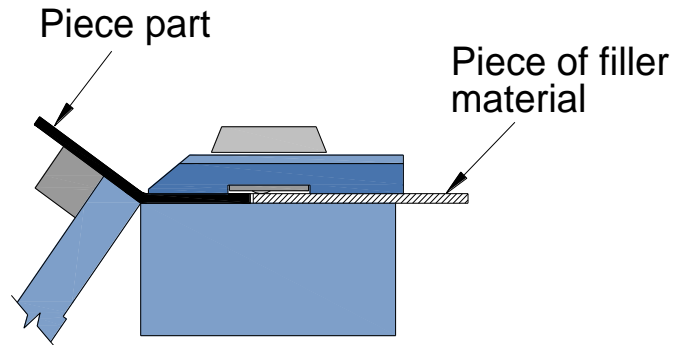

figure 10
9. Press and HOLD IN the RED stop button (fig. 10) until the clamping bar releases. Release the red button.
11. For thicker gauge materials set the toggle switch in (fig. 10) to the CLAMPING FOR BENDING position. When bending very thin materials set the toggle switch to CONTINUOUS LIGHT CLAMPING.